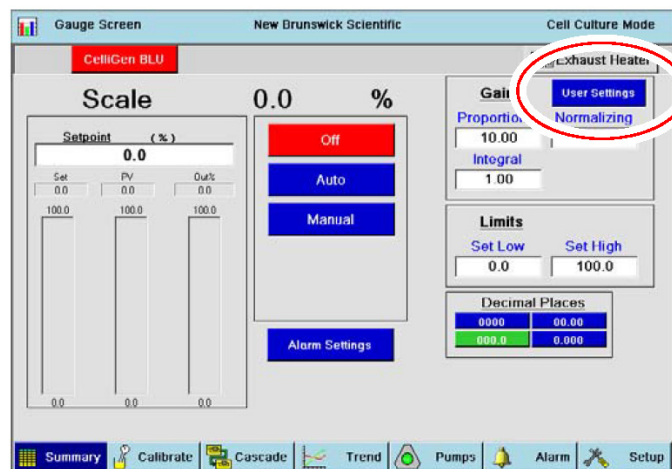

Fig. 18: Deleting a Control Loop
2. If this is a pump control loop, skip to Step 4. If this is not a pump control loop, press the User Settings button (see Fig. 18 on p. 36).